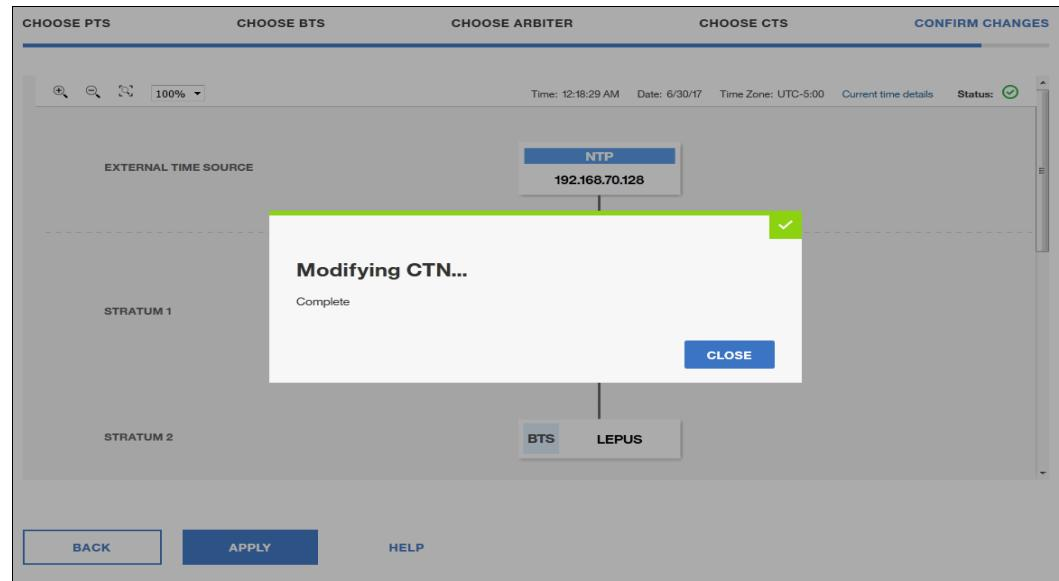

Figure 8-66 Manage System Time: Modifying STP role complete
7. When modifying STP roles is completed, a window similar to Figure 8-66 opens. Click **CLOSE** to go back to the initial **Manage System Time** window.